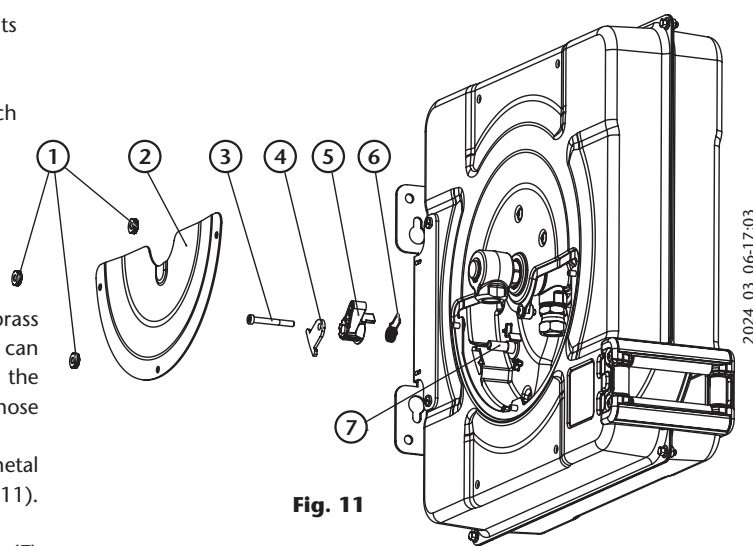

Fig. 11
1. Take apart the service lid (2) (fig. 11) loosening the plastic nuts (1) (fig. 11). No tools required to do this operation.
4. Loosen the bolt (3) (fig. 11) and take away the reinforcement metal sheet (4) (fig. 11), the latch (5) (fig. 11), and the spring (6) (fig. 11).
6. Assemble the new latch and the sprig through the guiding axis (7) (fig. 11), having in mind that the spring arms side must be oriented towards the latch, and leaving the spigot between the spring arms.
7. Place the reinforcement metal sheet (4) (fig. 11) and introduce the bolt (3) (fig. 11). When tighten the bolt beware not to exceed 4 Nm torque, otherwise, the bolt thread can be damaged.